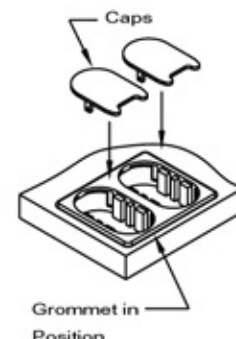

Figure 6
- Slide the cap into the grommet until it is flush (Figure 6).